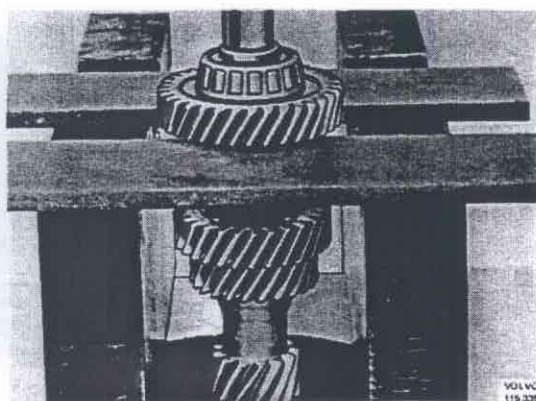

Fig. 43-72. Removing cluster gear
1. Remove the circlip for the front bearing. Press off the cluster gear and the front roller bearing, Fig. 43-72.